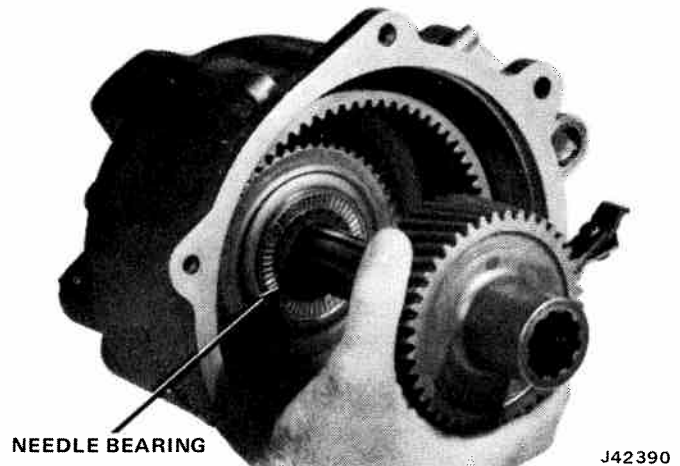

Fig. 8-39 Installing Mainshaft and Sun Gear Assembly
(31) Install needle bearing onto shift collar hub and pinion cage lock plate.
(32) Insert reduction mainshaft and sun gear assembly into shift collar hub and through direct drive sleeve and annular bearing (fig. 8-39).